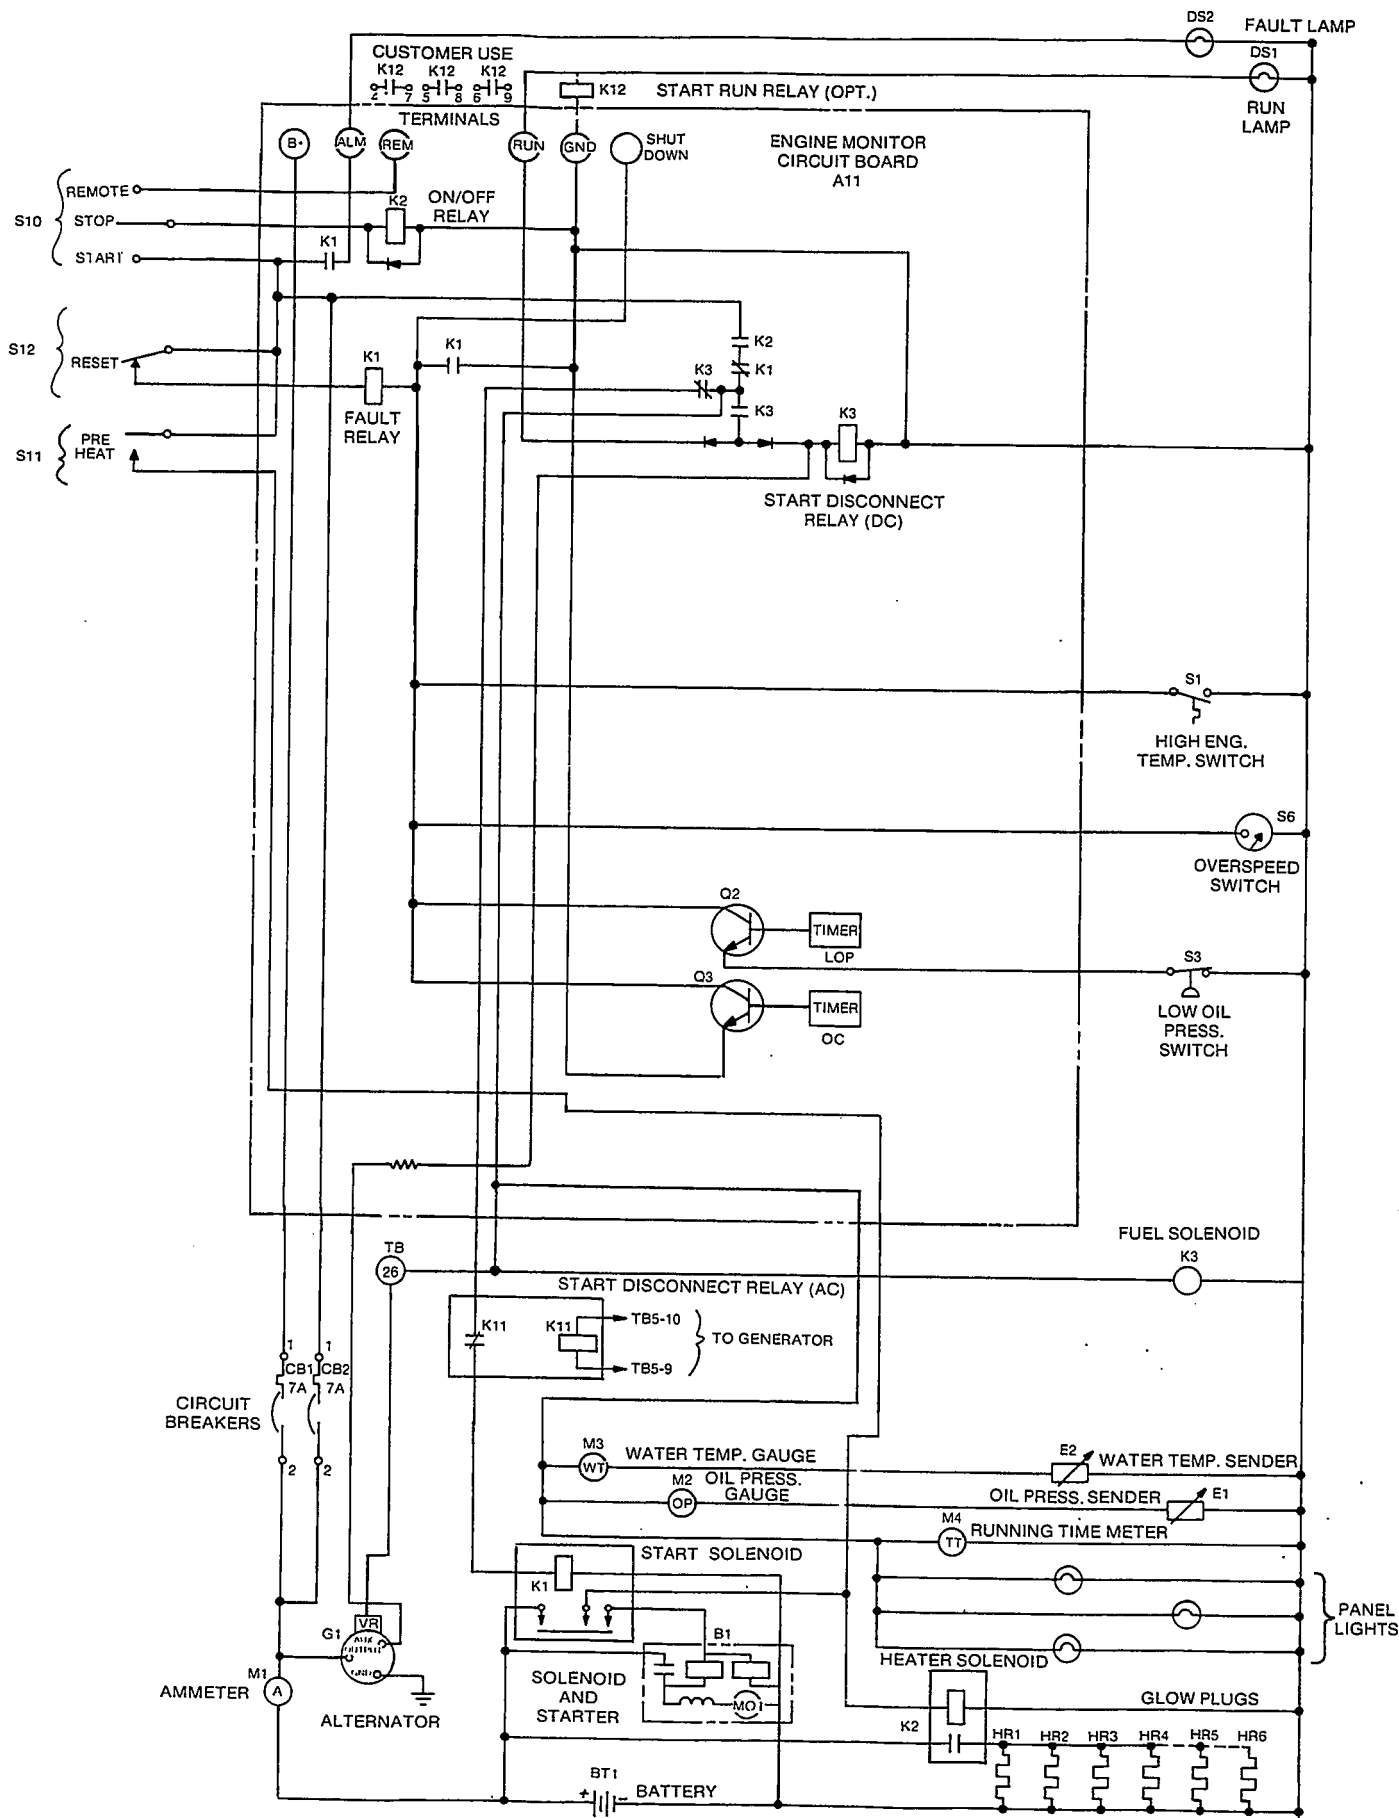

FIGURE 34. TYPICAL WIRING DIAGRAM :
Figure 34 shows a typical wiring diagram for the circuits described in the following Starting, Start-Disconnect and Stopping sequences. Relay contact references normally open (NO) and normally closed (NC) refer to position of contacts with the unit at rest (not energized).